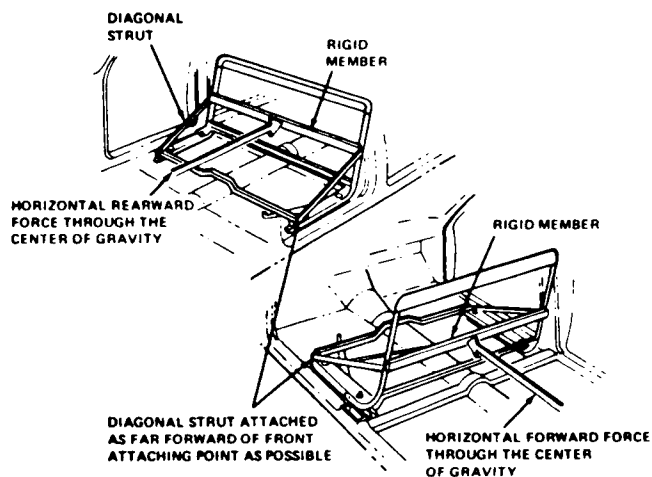
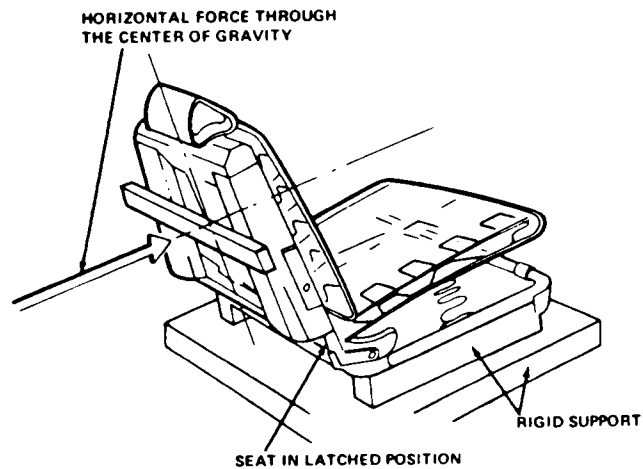

FIGURE 1
FIGURE 5
Subsection 2 and Figures 1 to 5 of this Section make up the test methods referred to in Section 207 of Schedule D to the Motor Vehicle Safety Regulations, which I approve for demonstrating compliance with the requirements of Section 207 of Schedule D of the said Regulations.
2.1.1 If the seat back and the seat bench are attached to the vehicle by the same attachments, secure a strut on each side of the seat from a point on the outside of the seat frame in the horizontal plane of the centre of gravity of the seat to a point on the frame as far forward as possible of the seat anchorages. Between the upper ends of the struts, place a rigid cross-member, in front of the seat back frame for rearward loading and behind the seat back frame for forward loading. Apply the force specified by subsections 207(1) (a) (i) (A) or 207(1) (a) (i) (B) of Schedule D to the Motor Vehicle Safety Regulations horizontally through the rigid cross-member as shown in Figure 1.
- 2.3 Apply the forces specified in subsections 207(5) (a) and (b) of Schedule D of the Motor Vehicle Safety Regulations to a hinged or folding seat, as shown in Figure 1, and to a hinged or folding seat back, as shown in Figure 5.